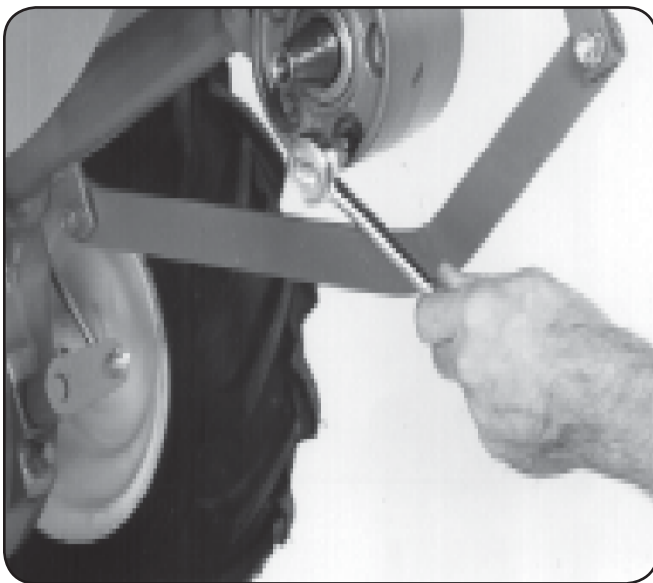

Figure 6-9
2. For complete drainage, remove the left-side tine assembly (See Tine Replacement in the Service section.), then remove just one of the lower screws from the tiller housing cover. See Fig. 6-9. To speed drainage, remove the tine attachment dipstick to vent transmission.